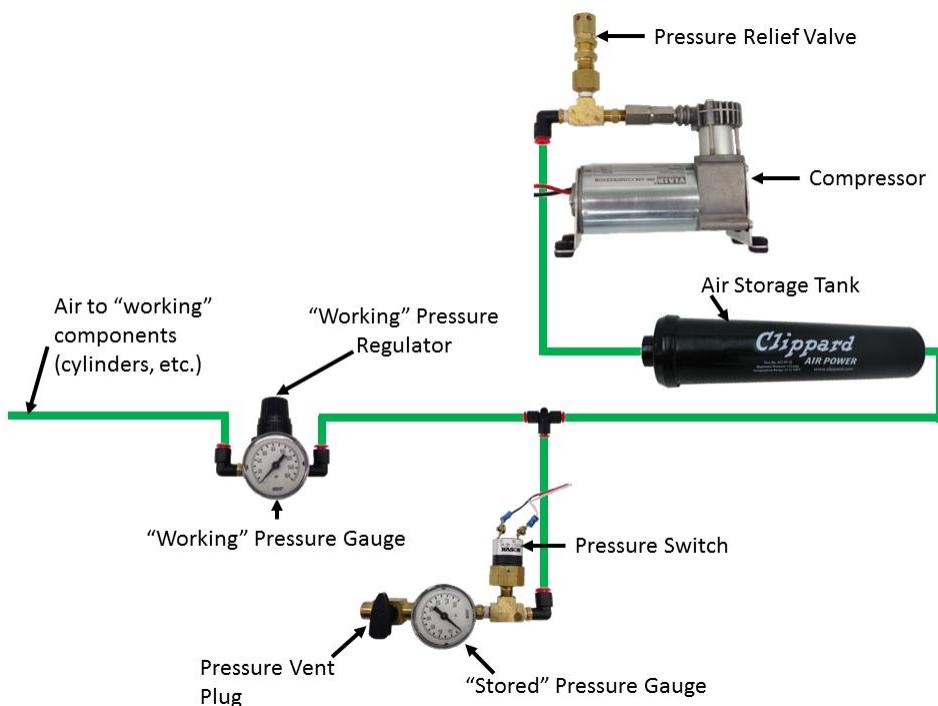

Figure 10-14 Pneumatic circuitry
- R85.** If pneumatic COMPONENTS are used, the following items are required as part of the pneumatic circuit and must be used in accordance with this section, as illustrated in Figure 10-14.
- A.** One (1) FIRST Robotics Competition legal compressor (per R86)